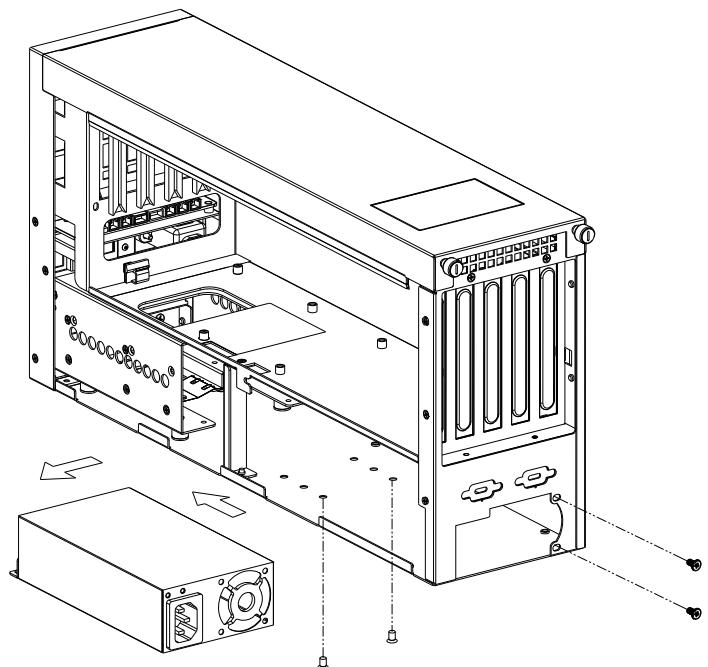

Figure 3.6 Replacing the single power supply/ 更换单电源 / 更換單電源
3. Loose the screws of power supply bracket from the rear panel and on the bottom of IPC-6025 and then gently pull out the power supply (see Figure 3.6).
3. 卸下将电源支架固定在后面板和机箱底部的螺丝，然后轻轻取出电源，如图 3.6 所示。